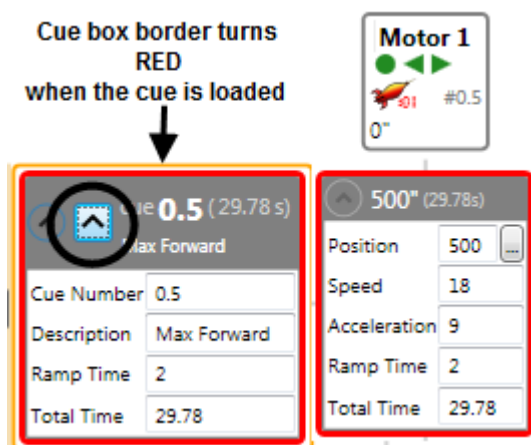

Figure 47
2. The border around the cue box will turn red, indicating that the cue is loaded (Figure 47).